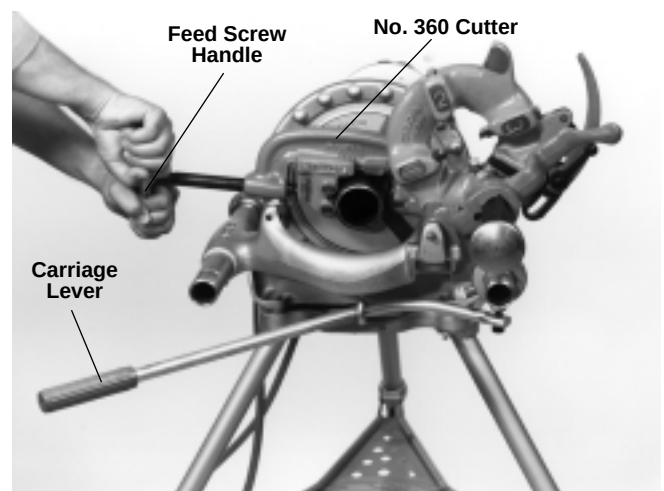

Figure 9 – Cutting Pipe with No. 360 Cutter
1. Check to insure the reamer and die head are in the UP position (*Figure 9*).
6. Grasp the pipe cutter's feed handle with both hands (*Figure 9*).